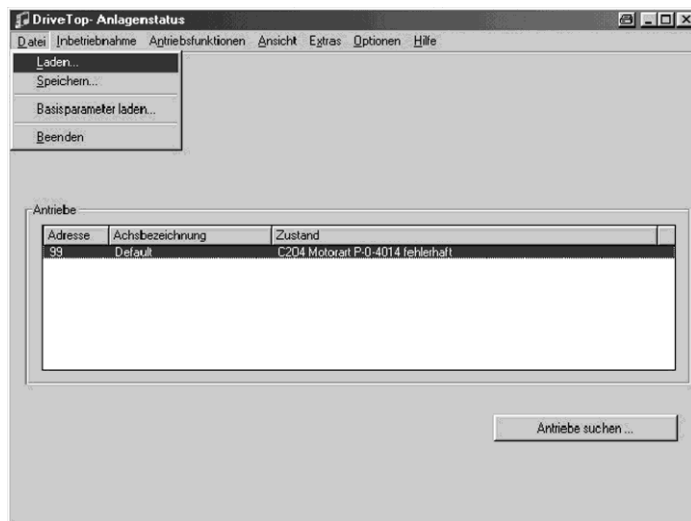

Figure 13: Selecting the backup file
- To select the backup file, click the menu item **Datei** (“file”) and choose **Laden** (“load”) (see Figure 13 page 24)